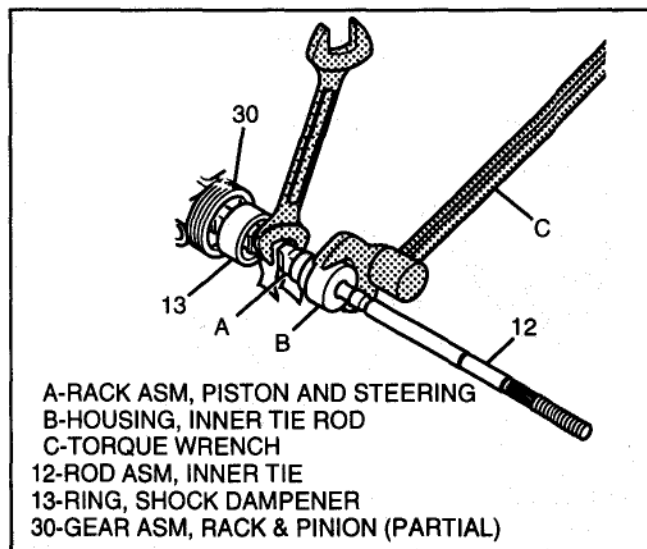

Figure 9 Inner Tie Rod Tightening
4. Install inner tie rod assembly onto steering gear (see Figure 9).